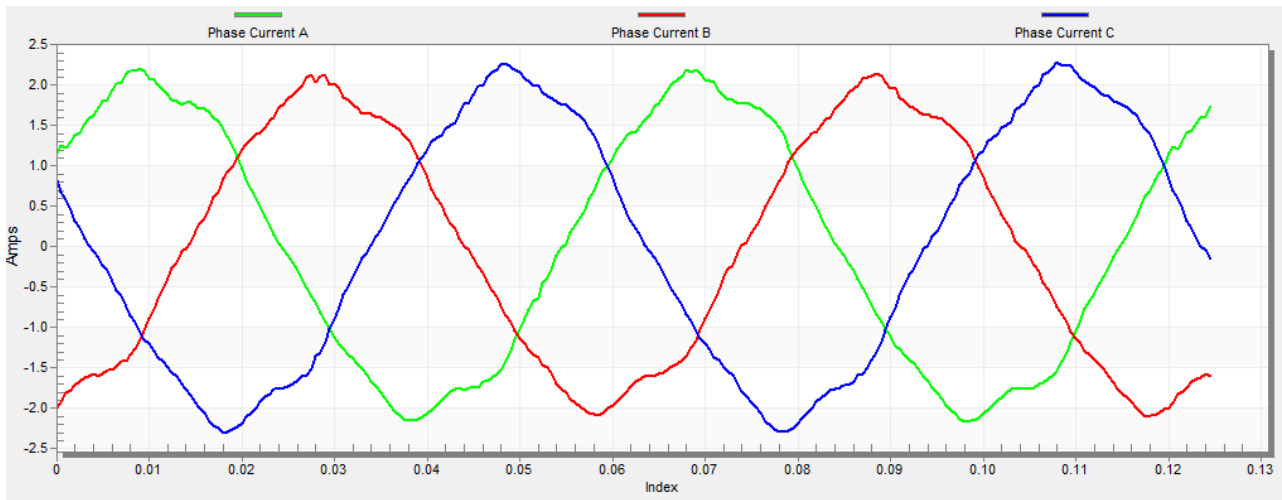

Figure 48. Phase currents
5. The optimal ratio for the V/Hz profile can be found by changing the V/Hz factor directly or using the “UP/DOWN” buttons. The shape of the motor currents should be close to a sinusoidal shape (Figure 48).